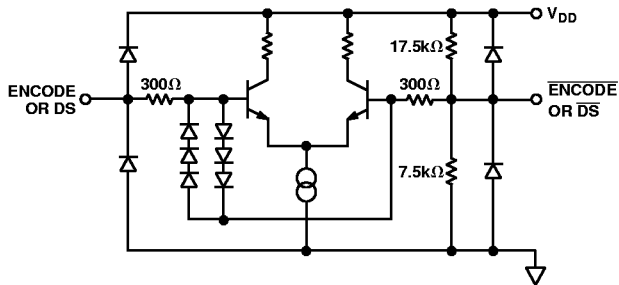

Figure 5. Equivalent ENCODE and Data Select Input Circuit
³t_V and t_{PD} are measured from the threshold crossing of the ENCODE input to valid TTL levels of the digital outputs. The output ac load during test is 5 pF (Refer to equivalent circuits Figures 5 and 6).
ENCODE and Data Select (DS) can be driven differentially or single-ended. For single-ended operation, the complement inputs ($\overline{\text{ENCODE}}$, $\overline{\text{DS}}$) are internally biased to $V_{\text{DD}}/3$ (~1.5 V) by a high impedance on-chip resistor divider (Figure 5), but they may be externally driven to establish an alternate threshold if desired. A 0.1 μF decoupling capacitor to ground is sufficient to maintain a threshold appropriate for TTL or CMOS logic.
Note the 6-diode clock input protection circuitry in Figure 5. This limits the differential input voltage to $\sim \pm 2.1$ V. When the diodes turn on, current is limited by the 300 Ω series resistor. Exceeding 2.1 V across the differential inputs will have no impact on the performance of the converter, but be aware of the clock signal distortion that may be produced by the nonlinear impedance at the converter.